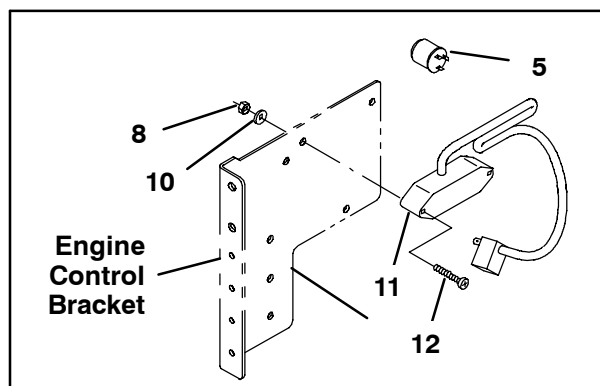

FIG. 11
21. Use two pan screws (12), two washers (10), and two hex nuts (8) to install a flasher (11) onto the engine control bracket. Refer to Fig. 11.